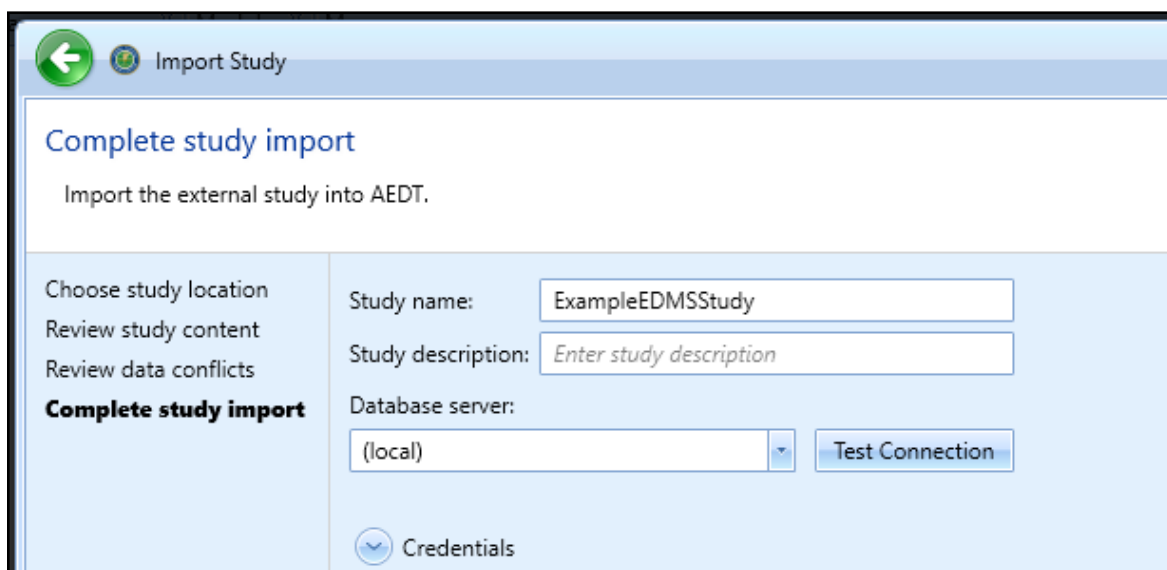

Figure 39- Complete study import
6. In the *Complete study import* step, enter a unique *study name*. (Figure 39)